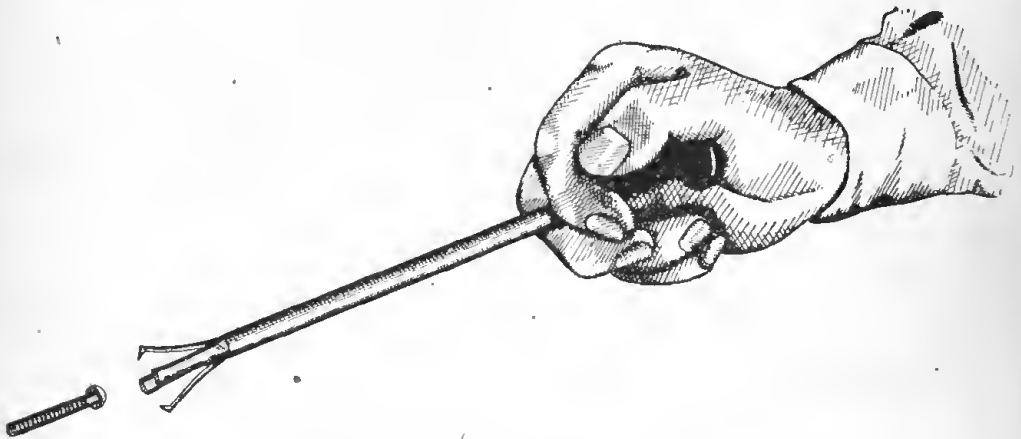

Figure 52. Using mechanical finger.
f. MECHANICAL FINGER. A mechanical finger (fig. 52) is a tube with long, flat springs running through it. At one end these springs are bent in toward the center. The other ends of the springs are fastened to a